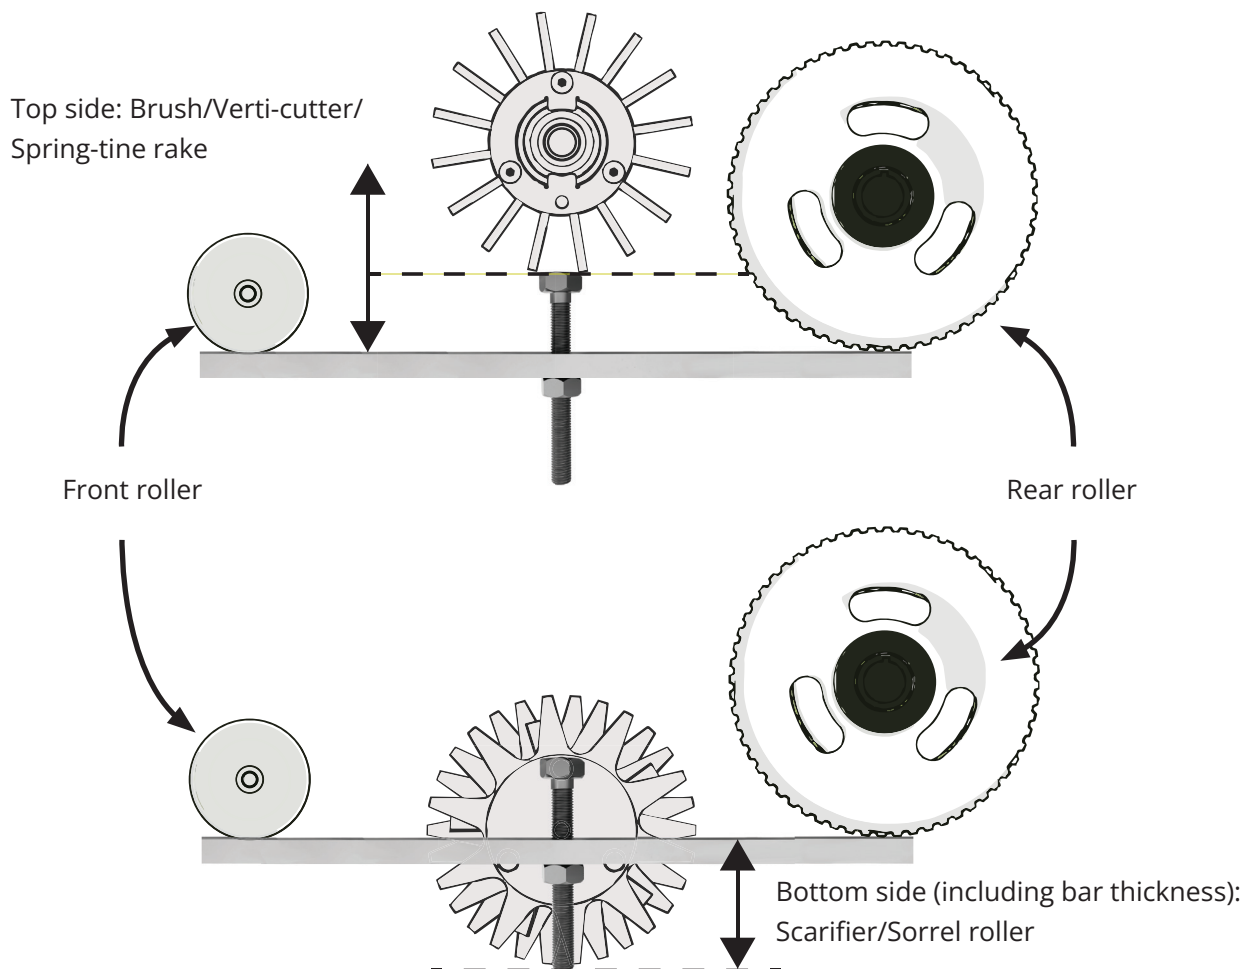

Fig.13 - Setting bar measurement for above/below ground cassettes.
tively) is to that desired (Fig.13). To note:
- Rotate the toothed gear to raise or lower the front roller. While doing this, position up the setting bar again between the front and rear roller. Stop adjusting when either the tips of the brush hairs/verti-cutters are level with the bolt head, or the tips of the scarifier/sorrel roller are level with the bolt end. (Fig.13). Tighten lightly the top clamp nut.